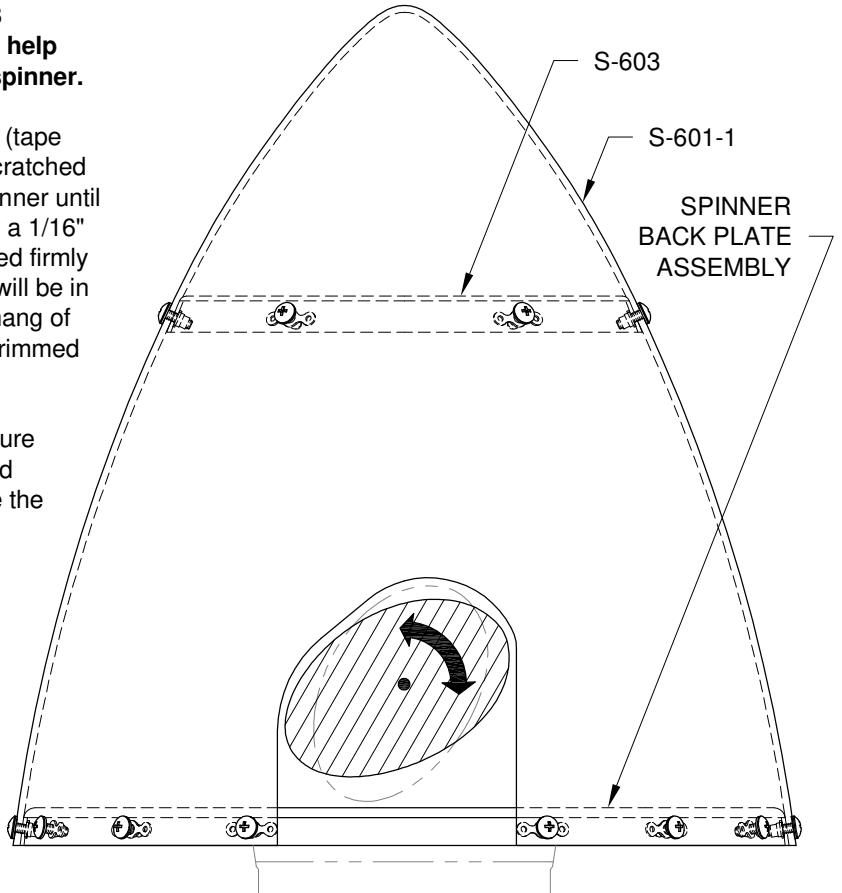

FIGURE 1: SECURING THE SPINNER
Step 7: Remove the S-601-1 Spinner. Drill #40 holes in the Spinner Back Plate Assembly, the S-603 Spinner Front Plate, and the S-1002 Backing Plate for the rivets used to attach the nutplates called-out in Figures 1 and 2.
Step 9: Deburr all holes drilled, then rivet the nutplates called-out in Figures 1 and 2 to the Spinner Back Plate Assembly, the S-603 Spinner Front Plate, and the S-1002 Backing Plates.